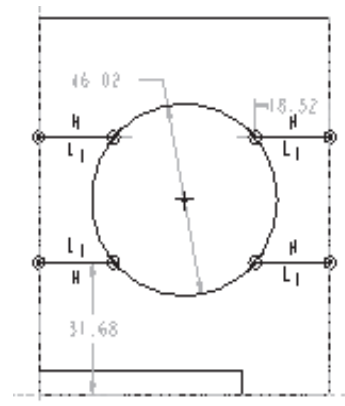

Figure B-9 Sketch of the lines joined to the circle on the circumference with weak dimensions
2. Choose the **Create lines.** button and draw the lines joining the circle as shown in Figure B-9. Choose **Yes** from the **Confirm** dialog box to align the endpoints of lines. As evident from Figure B-9, the lines are automatically aligned to the edge of the existing feature and to the circle. However, you will apply the constraints to the sketch manually.